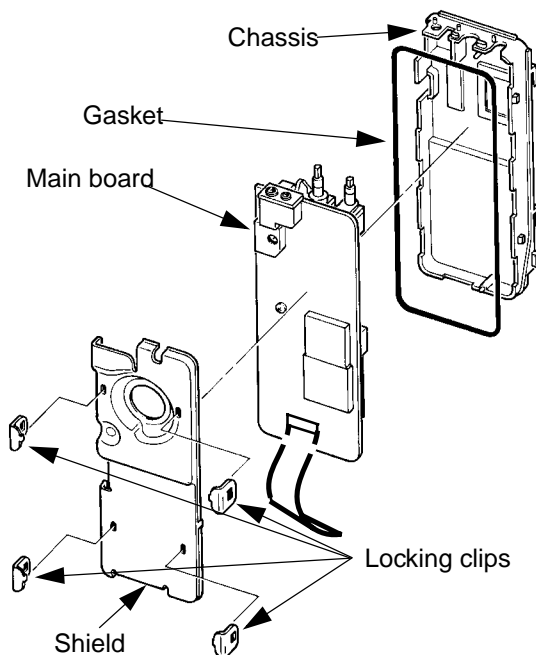

Figure 1-6. Separate Main Board From Chassis
5. Separate the main board from the chassis (Figure 1-6).